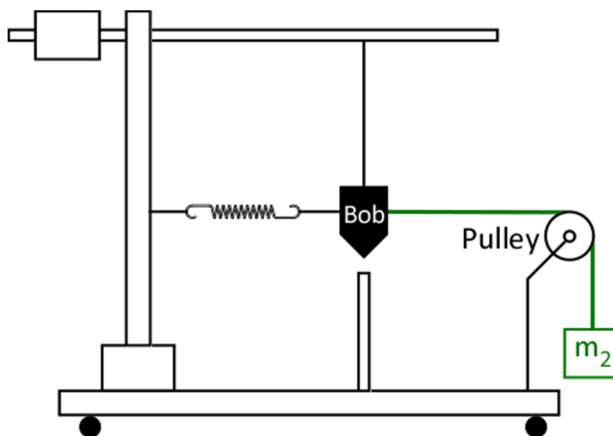

Figure 3: Bob at rest
- Add mass, m_2 until the spring is stretched so that Bob is lined up *above* the pointer (Figure 3). *Don't change the position of the point!*